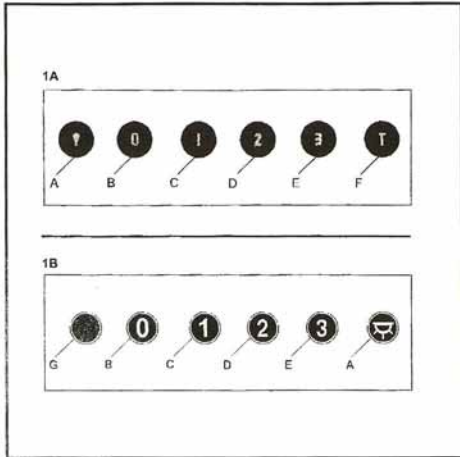

Fig. 5
• **COMANDS: 1A)LUMINOUS\_1B)MECHANICAL** (Fig. 5) the key symbols are explained below: